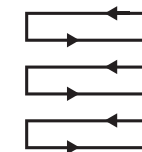

Fig. 22
5. Mow in slight overlapping rows. The most effective pattern for mowing lawns is straight lines along one of the sides. This will keep the rows even and ensures that all the lawn is cut without missing any spots (Fig. 22).